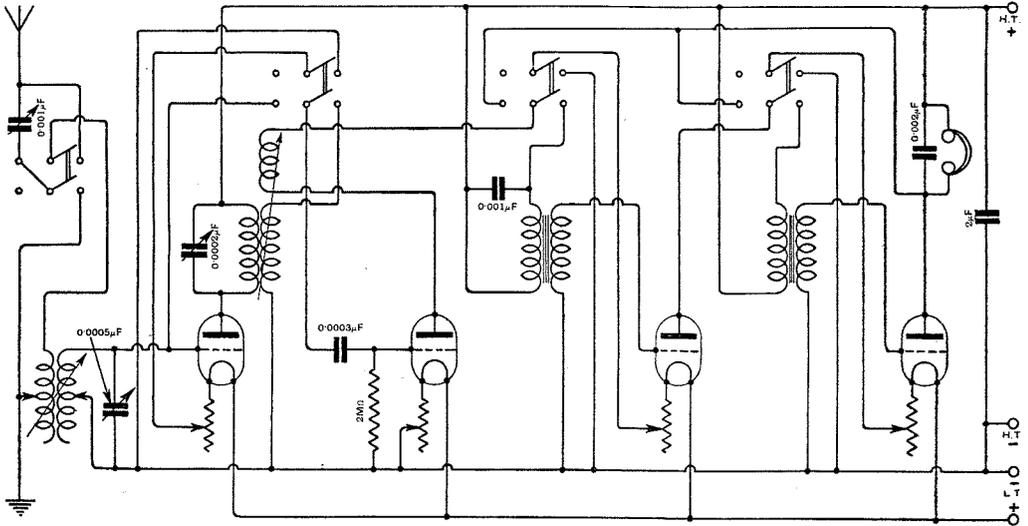

Fig. 2. **"L.G." (Bury)**. Connections of a four-valve receiver with transformer coupled H.F., and with switches to vary the number of valves in circuit.
(1) The diagram required is given in Fig. 2. (2) The A.T.I. should consist of 200 turns of No. 22 D.C.C. on a cylindrical former 6" in diameter and 9" long. The secondary coil should be wound on a former 4½" in diameter and 8" long, arranged to slide inside the A.T.I., and should consist of 360 turns of No. 26 S.S.C. Ten equal spaced tappings should be taken on each coil.